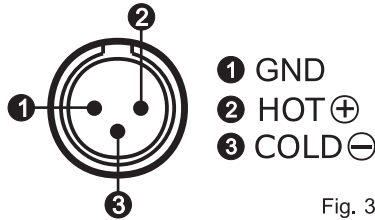

Fig. 3
- (B) 3-pin XLR output wiring diagram, as Fig. 3 shows.